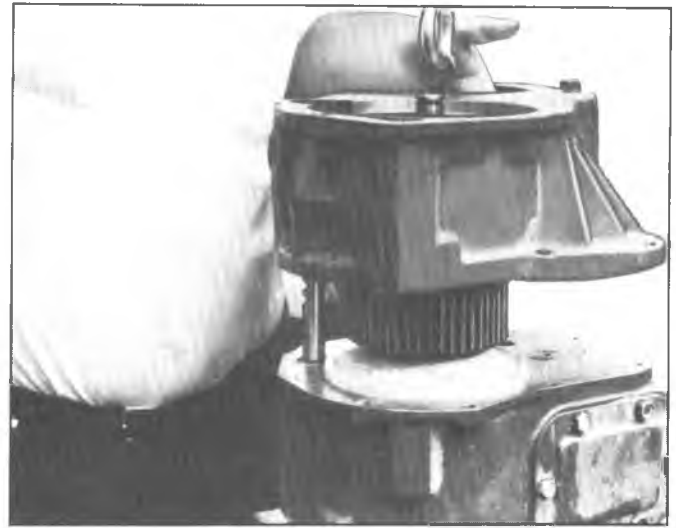

Fig. 12F—Removing Intermediate (Chain) Housing
15. Remove bolts attaching intermediate chain housing to range box. Lift or using a chain hoist, remove intermediate housing from range box (Fig. 12F).